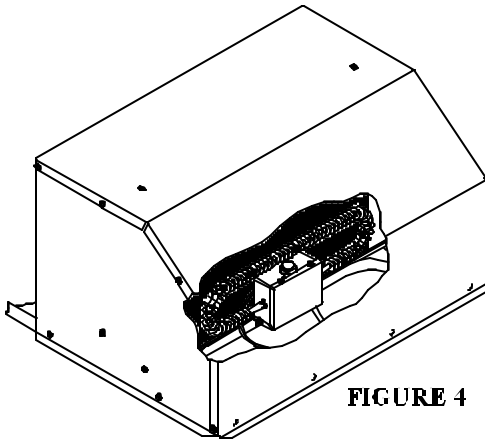

FIGURE 4
In the small parts package of the ceiling plenum is a low temperature sensor. The low temperature sensor (See Figure 4) installs by inserting it straight in between the two lower evaporator tubes until contacting a tube, then raising the back of the probe and continuing at a 45° angle until the probe is **fully** inserted.
To gain access to the fins of the evaporator coil, reach up through the return air opening in the bottom of the roof top unit. Insure that the thermistor wire is routed to avoid contact with the heater element and the thermistor is located so as to be “shaded” by the heater control box (See Figure 4).
6. Insert the freeze circuit thermistor probe into the roof top unit evaporator coil. Verify that the probe is located in the coil properly (See Figure 4).